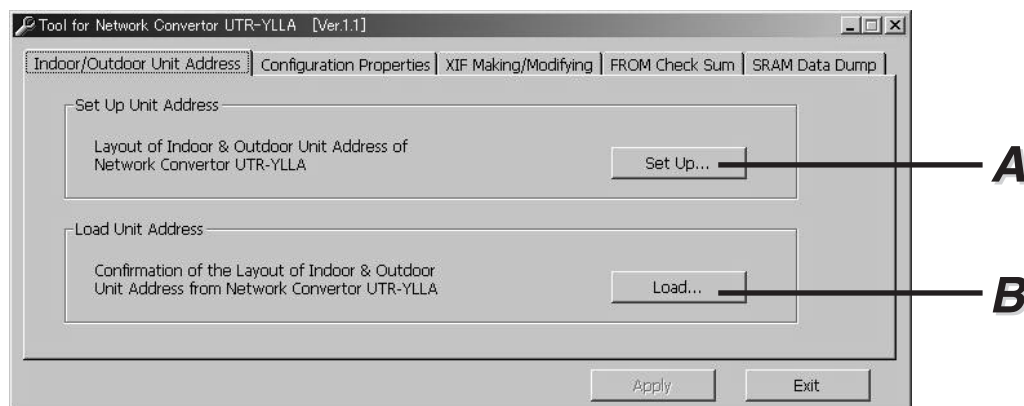
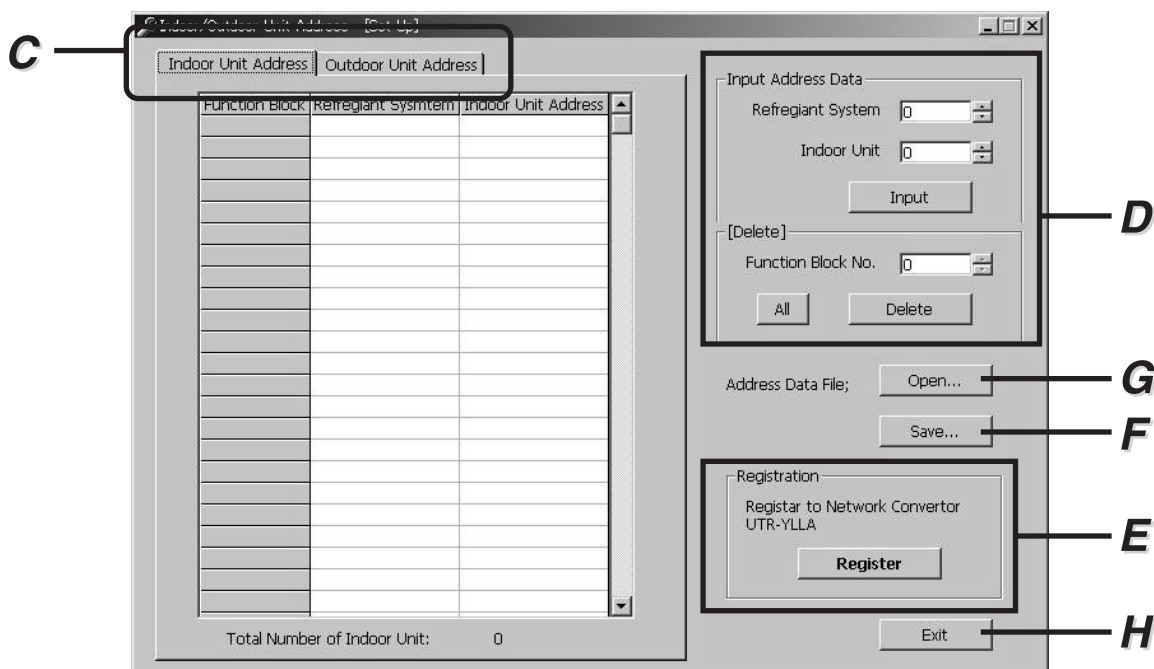
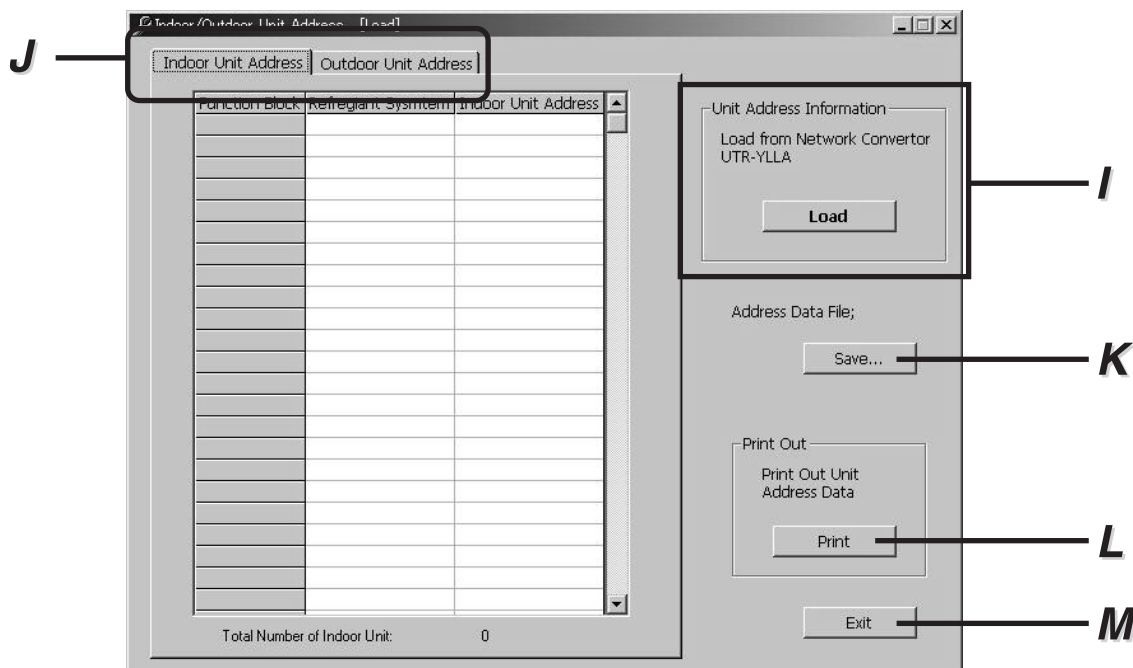

Fig. 10 Set Up/Load Unit Address
Fig. 11 Editing the Unit Address
Fig. 12 Load the Unit Address Data
Click “Set Up ...” (**A** in the screen shown in Fig. 10). The screen shown in Fig. 11 is displayed.
- 1) Click the appropriate tab (**C** in the screen shown in Fig. 11) to change the indoor/outdoor unit address.
- 2) Edit the unit address using the spin boxes (**D** in the screen shown in Fig. 11). (The address data is sorted.)
If editing is finished, Click "Register" (**E** in the screen shown in Fig. 11) to register the unit address with the UTR-YLLA.
To save the edited data, click "Save...". (**F** in the screen shown in Fig. 11)
To open the unit address data file, click "Open...". (**G** in the screen shown in Fig. 11)
To quit, click "Exit". (**H** in the screen shown in Fig. 11)
To load the set unit addresses from the UTR-YLLA to confirm the association of the FB with each address, click “Load ...” (**B** in the screen shown in Fig. 10). The screen shown in Fig. 12 is displayed.
Click “Load” (**I** in the screen shown in Fig. 12) to load the unit address data from the UTR-YLLA. If the data has been successfully loaded, the registered unit address data is displayed.
b) Click the appropriate tab (**J** in the screen shown in Fig. 12) to change the indoor/outdoor unit address.
To save the loaded data, click “Save...”. (**K** in the screen shown in Fig. 12)
To print out the unit address data, click “Print”. (**L** in the screen shown in Fig. 12)
To quit, click “Exit”. (**M** in the screen shown in Fig. 12)